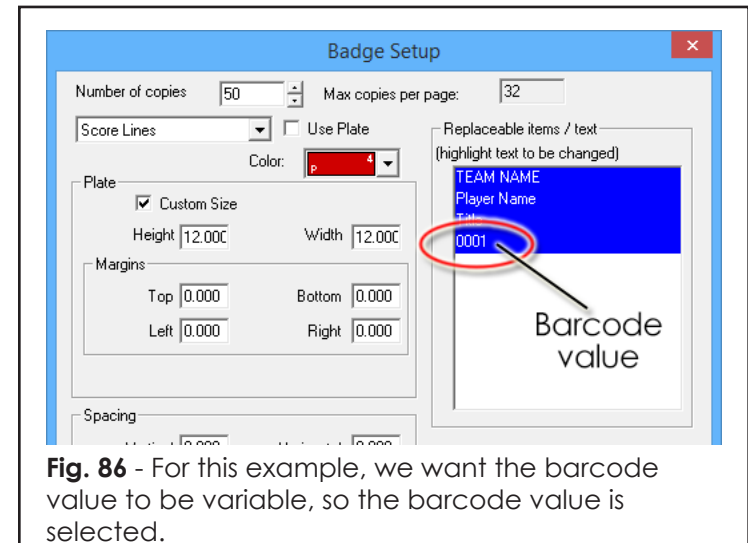

Fig. 86 - For this example, we want the barcode value to be variable, so the barcode value is selected.
2. In the **Badges Setup** dialog (Fig. 86), set the various control according to your production setup.